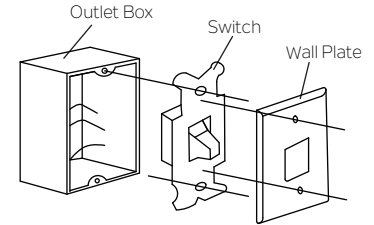

Fig. 28
**Step 1.** Remove the existing wall plate and the old switch from the wall outlet box. Disconnect wires. (Fig. 28)